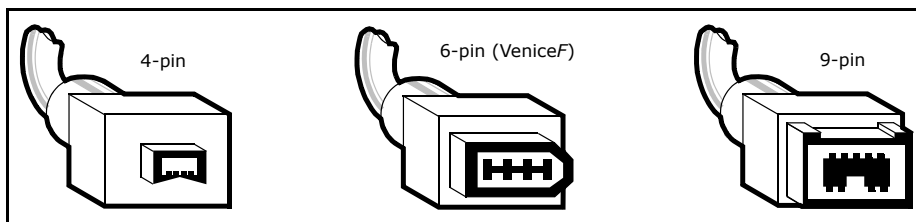

Figure 3: Some typical FireWire connectors
- 2** Connect the VeniceF to the Mac using the appropriate FireWire cable (see Figure 3 "Some typical FireWire connectors" on page 20), while observing the following precautions